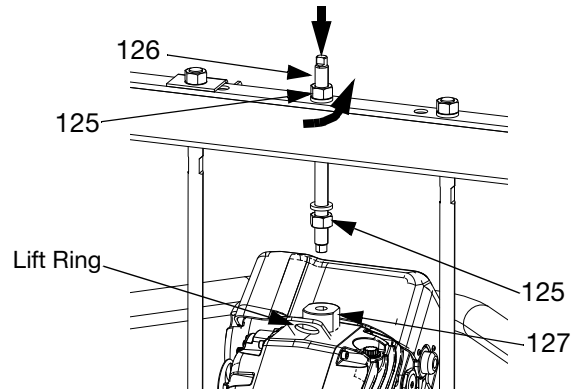

FIG. 51: 55 Gallon Platen
- 5. Disconnect Driver (AB):
- a. *D200 3 in. and D200s 6.5 in. ram supply units:* Attach a secure hoist to the driver lift ring. Loosen nut (125) below crossbar. Use wrench to hold lift ring adapter (127) in place and loosen threaded rod (126) above crossbar with another wrench. See FIG. 51.